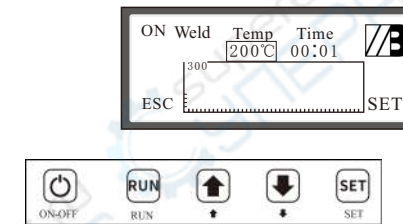
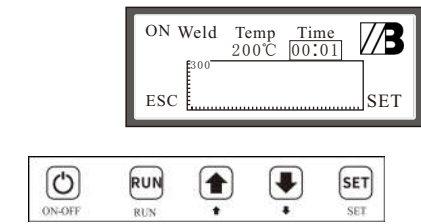

Fig. 10
Fig. 11
- (3) Press "SET" button to switch "Heating" to highlighted state, and press "PAGE DOWN" button to switch to "SOLDERING". Press "SET" Button again to switch "TEMPERATURE" to highlighted state. Press "PAGE UP" button and "PAGE DOWN" button to conduct the setting of "TEMPERATURE" as shown in Fig.10. Press "SET" Button again to switch to "TIME" setting to highlighted state as shown in Fig.11, and then Setting the hold time.